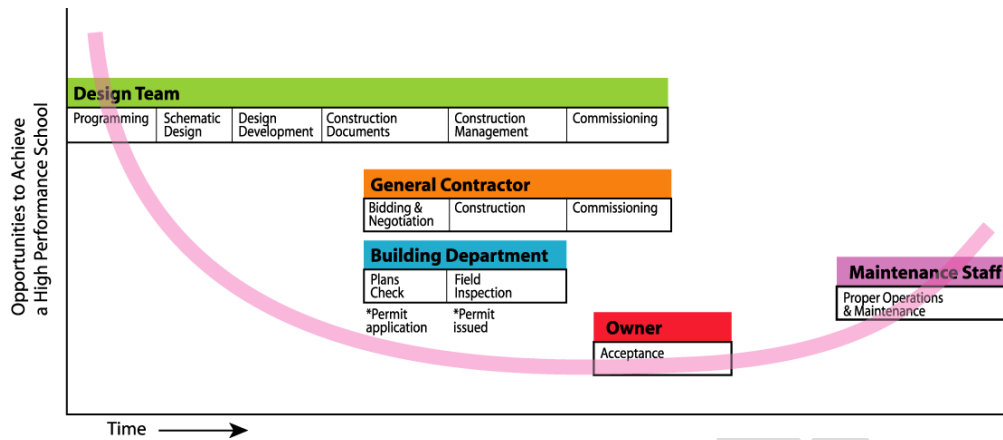

Figure 1 – Efficiency Operation during the School Construction Process
- *Best Practices Manual Volume IV, Maintenance and Operations* – The last volume in the Best Practices Manual series, the Maintenance and Operations (M&O) Manual, picks up after planning, design, construction, and commissioning of the school are all complete (see Figure 1). The manual provides guidance for M&O staff, teachers, and administrators, giving strategies for avoiding improper use of building systems and poor maintenance practices that can greatly diminish the energy and cost savings of a high performance school. The topics covered in this manual include cleaning and calibrating building systems, selecting cleaning products, and promoting waste reduction.